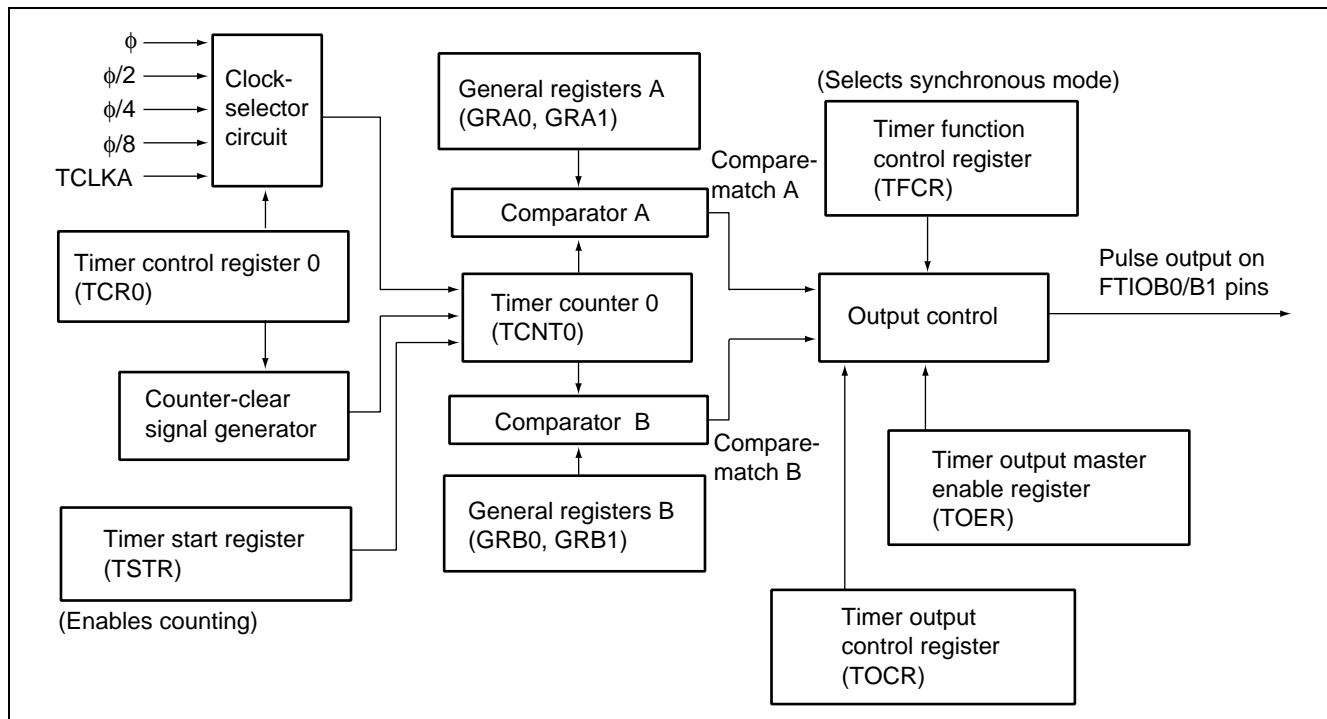

Figure 2.1 Timer Z Channels 0 and 1 in the Synchronous Operation Mode
1) Figure 2.1 is a diagram of the Timer Z functions used in this sample task.